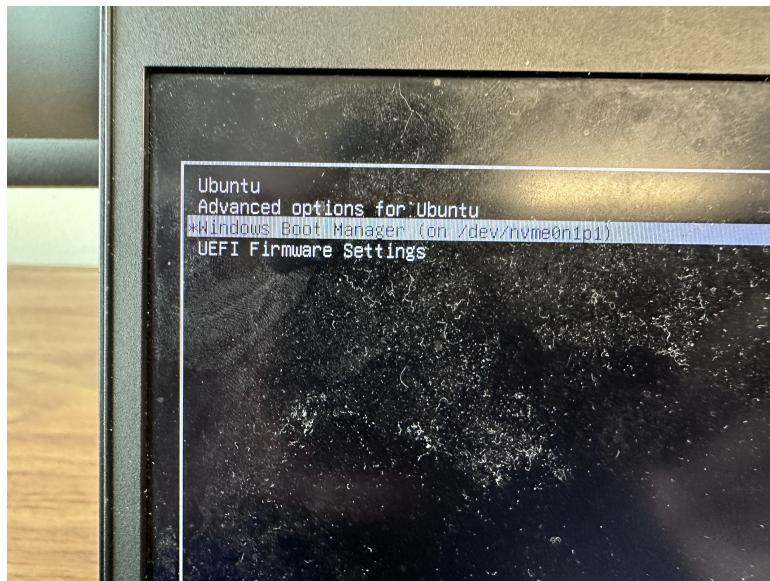

Figure 5: OS choosing page
1. Choose the right OS option: Windows [Figure 5]